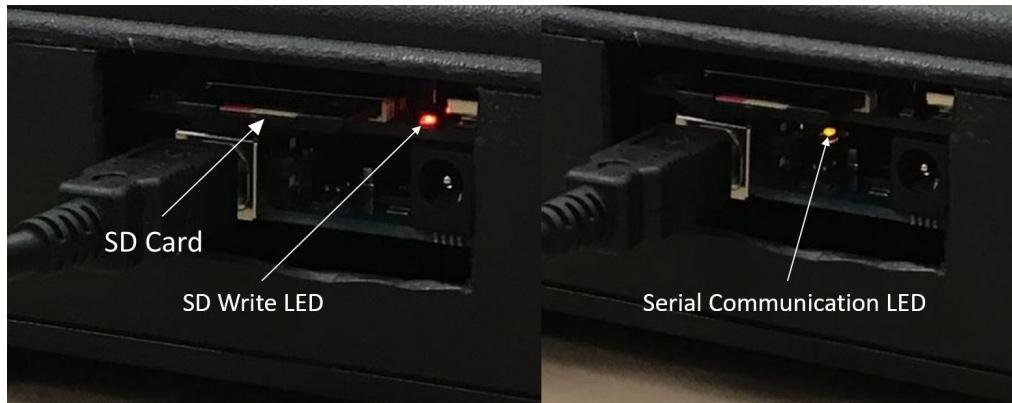

Figure 13: Control LEDs inside the TADA
- Upon opening the program, a yellow LED in the TADA should begin flashing (See Figure 13)